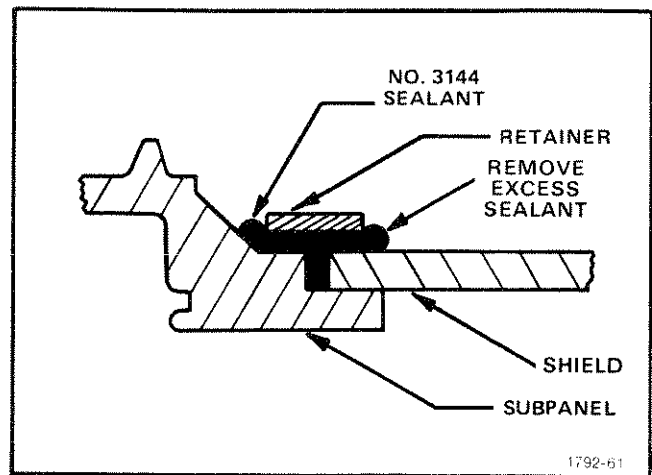

Fig. 5-7. Detail of implosion shield sealing.
1. Pressing the retainer should cause some of the sealant to appear outside the retainer area, see Fig. 5-7. Failure of the sealant to appear at any point around the retainer is an indication of inadequate sealing.
2. When performing this step, assure that the shield makes flush contact with the subpanel, see Fig. 5-7.